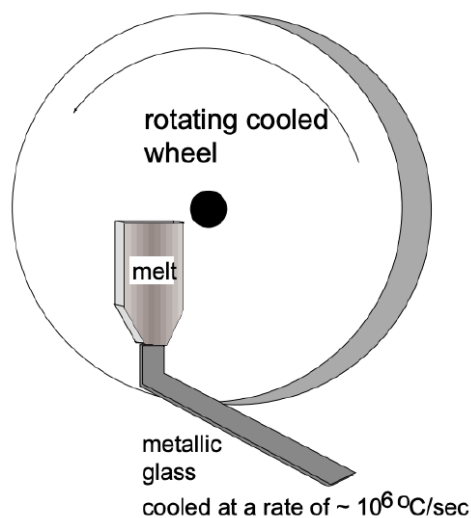

Figure 3 Production of metallic glass by melt spinning
The existence of metallic glasses shows the generality of the glass-forming process. In addition, the physical picture in this case is especially simple. Even with the highest presently attainable cooling rates (up to 10^7°C/s), no "pure" metal has yet been obtained in a glassy state. However, if the liquid is an alloy of two (or more) metals whose atoms differ greatly in size, the crystallization process is more difficult and can be prevented in many instances by extremely rapid cooling of the melt (10^6°C/sec). The two experimental techniques for rapid cooling are (1) propelling a liquid drop at high velocity and "splating" it against a cooled copper surface, (2) flattening a liquid drop between a piston and an anvil or between two rolls and (3) "spinning" the melt by transferring it in a continuous mode onto a rapidly rotating, cooled wheel (fig. 3). X-ray patterns of the solidified alloys are similar to those of liquid metals - this and other evidence suggest that they are "amorphous", that their structure is that of a glass.